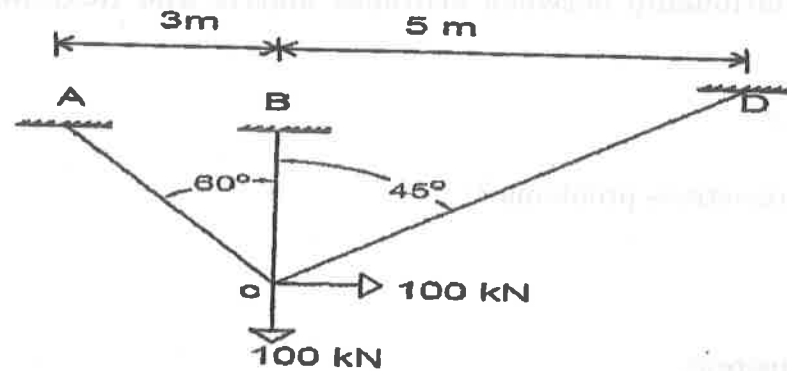

Fig.4
12. a) Analyse the truss shown in Fig.4 by stiffness method. AE is constant for all members.